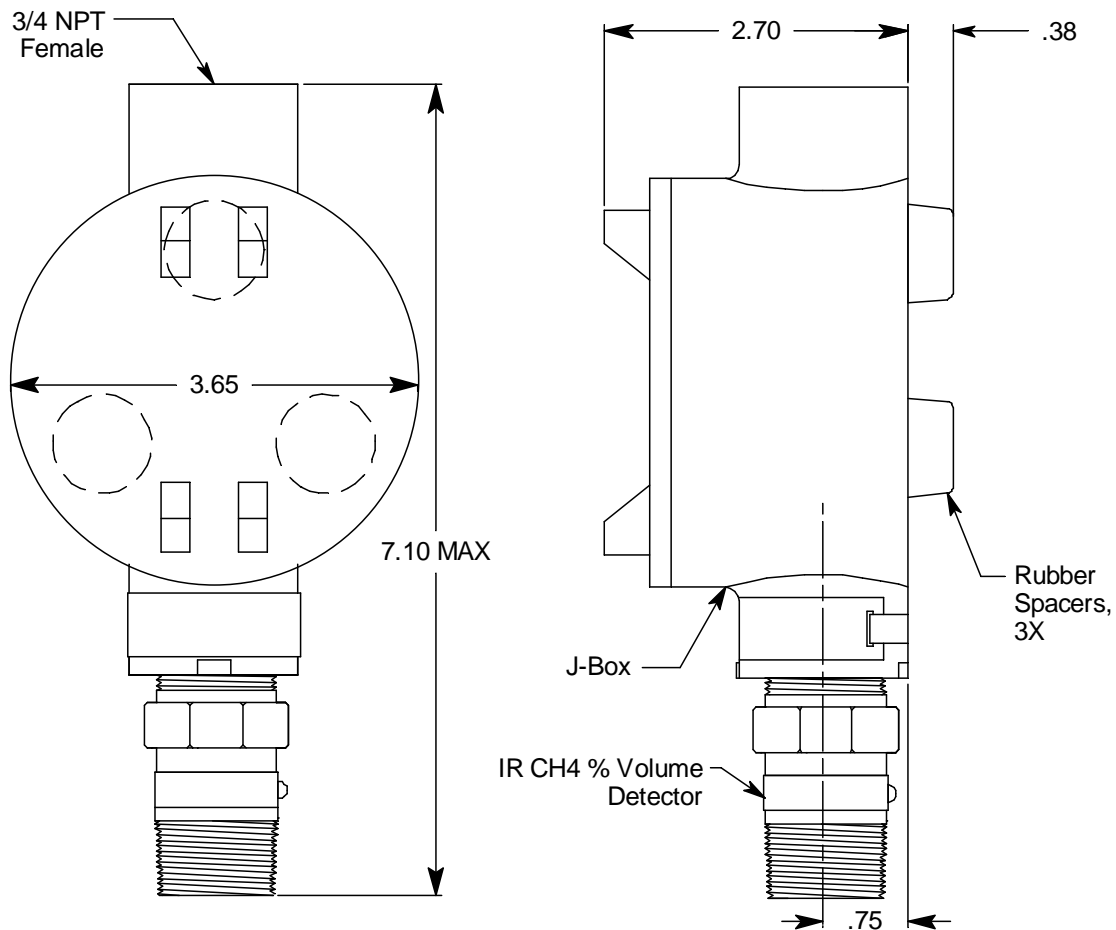

Figure 2: Mounting the Methane Transmitter
2. At the monitoring site you select, hang or mount the junction box with the detector facing down (see Figure 2).